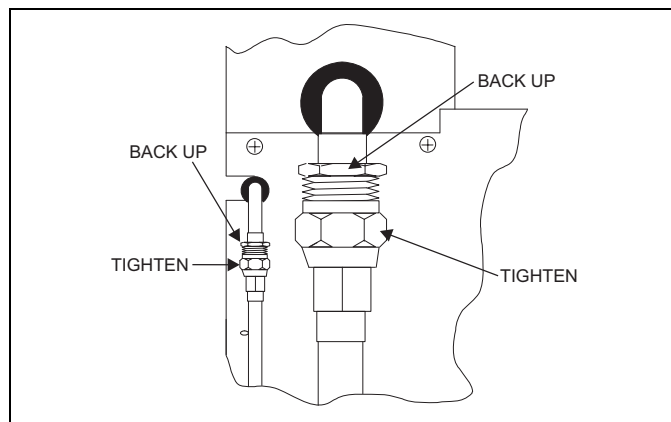

FIGURE 6: Quick Connect Coupling Connections
- a. Tighten indoor coil couplings with wrenches; using wrench on stationary fitting of coupling and liquid line fitting at coil while nut is being tightened. See Figure 6. Tighten the nut until the coupling bottoms out.